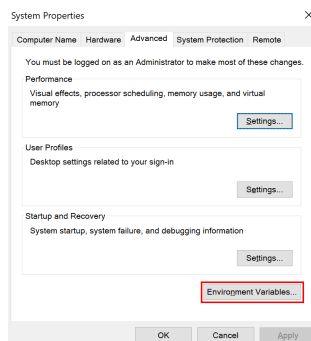

Figure 4: The System variables dialogue.
- Click the "Environment Variables" button near the window's bottom right corner (Fig. 4).